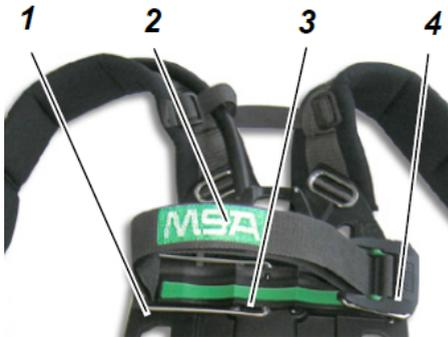
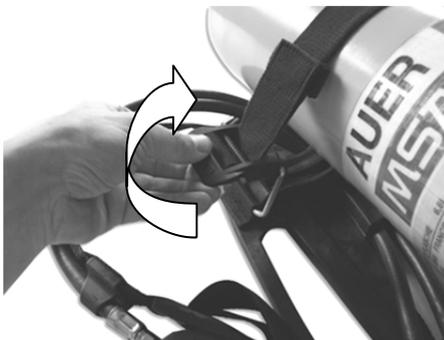
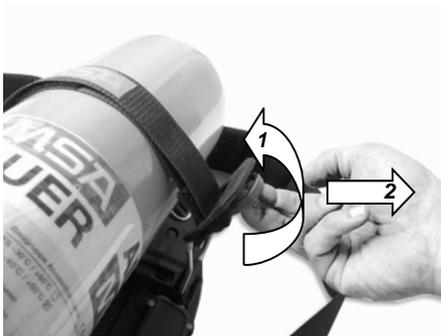

Fig. 17 Compressed air breathing apparatus – details
Fig. 18 Opening the cylinder buckle
Fig. 19 Readjusting the strap length at the buckle
- (1) Place compressed air breathing apparatus horizontally so that the back face is uppermost (→ Fig. 17).
- (2) Bring cylinder separator (1) into a horizontal position opposite the cylinder buckle (4) until it catches.
- (3) Check gasket on pressure reducer high pressure socket for proper condition.
- (4) Open cylinder buckle on the cylinder strap eliminating any tension by extending the strap to full length pulling the small bar at the buckle (→ Fig. 18).
- (9) Check position of compressed air cylinder, retighten if necessary.
- (10) Hinge cylinder buckle (4) gently and completely down over the centre until it catches.
- (11) If push force/tension is too high during hinging of the cylinder buckle, re-adjust the strap length at the cylinder buckle. If the strap tension is too low, re-adjust the strap length at the cylinder buckle (→ Fig. 19).
- (1) If necessary, thread the *alphaCLICK 2* cylinder adaptor with a specific torque of 20-30 Nm into the cylinder valve (→ Section 5).
- (2) Place compressed air breathing apparatus horizontally so that the back face is uppermost (→ Fig. 17).
- (3) Bring cylinder separator (1) into a horizontal position opposite the cylinder buckle (4) until it catches.
- (5) Push compressed air cylinder through the cylinder strap (2) with the cylinder valve toward the pressure reducer so that it lies on the central support (3).
- (6) Align the compressed air cylinder with the *alphaCLICK 2* axially to the coupling and fit on the *alphaCLICK 2* coupling.
- (9) Check position of compressed air cylinder, re-position if necessary.
- (12) Fasten end of the cylinder retaining strap onto Velcro strip.
- (13) Briefly open cylinder valve and check for escaping air, retighten if necessary.
- (2) Hinge cylinder separator (1) into a vertical position until it catches.
- (3) If there is no T-piece connected to the pressure reducer, check gaskets on the pressure reducer and T-piece and thread in T-piece loosely.
- (4) Open cylinder buckle on the cylinder strap eliminating any tension by extending the strap to full length pulling the small bar at the cylinder buckle (→ Fig. 19).
- (5) Push one compressed air cylinder through the cylinder retaining strap so that the cylinder valve points to the T-piece and lies on one of the outer supports.
- (6) Loosely thread the cylinder valve onto the T-piece.
- (7) Push a second compressed air cylinder through the cylinder retaining strap so that the cylinder valve points to the T-piece and lies on the outer support.
- (8) Loosely thread the second cylinder valve onto the T-piece.
- (12) Hinge cylinder buckle down until it catches.
- (13) If push force/tension is too high during hinging of the cylinder buckle, re-adjust the strap length at the cylinder buckle. If the strap tension is too low, re-adjust the strap length at the cylinder buckle (→ Fig. 19).
- (14) Fasten end of the cylinder retaining strap onto Velcro strip.
- (15) Check that compressed air cylinders are held securely, retighten if necessary.